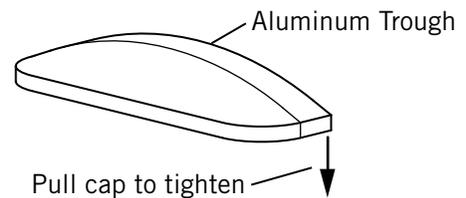

Figure 9-3
- 11) **Figure 9-3.** Pull cap tight over top rail.